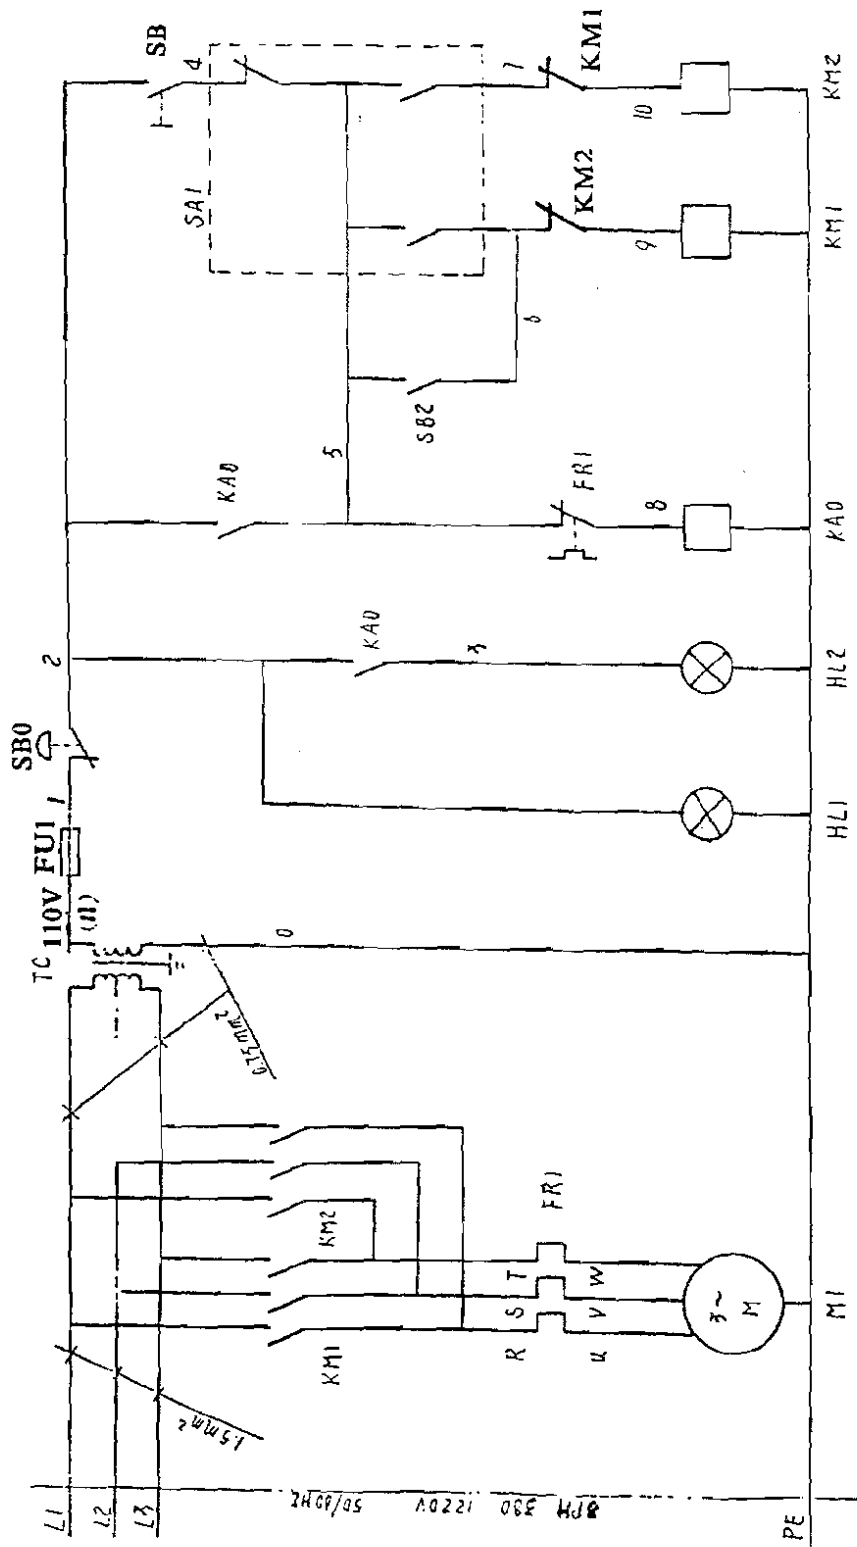
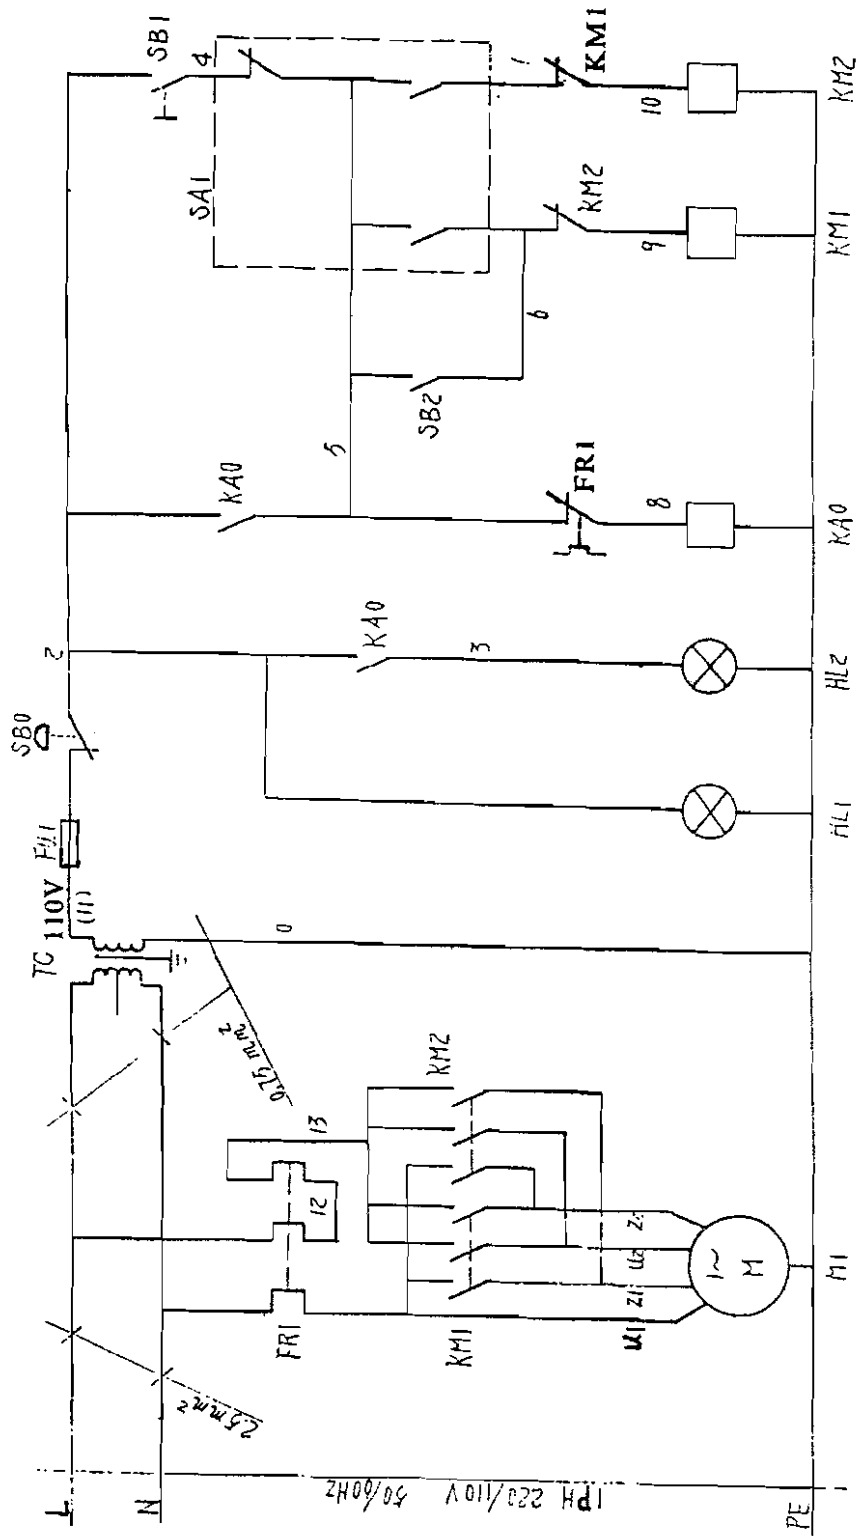

Fig 7 WIRING DIAGRAM FOR 3 PHASE
Fig 8 WIRING DIAGRAM FOR 1 PHASE
- * The standard lathe are wired for 220V/380 V 3 phase 60 & 50 Cycle (See Fig. 7) or for 110 V/220 V 1 phase 60 & 50 cycle (See Fig.8) according to order. For connection to other volts, check the wiring diagram for the changeover shown in the motor terminal cover.